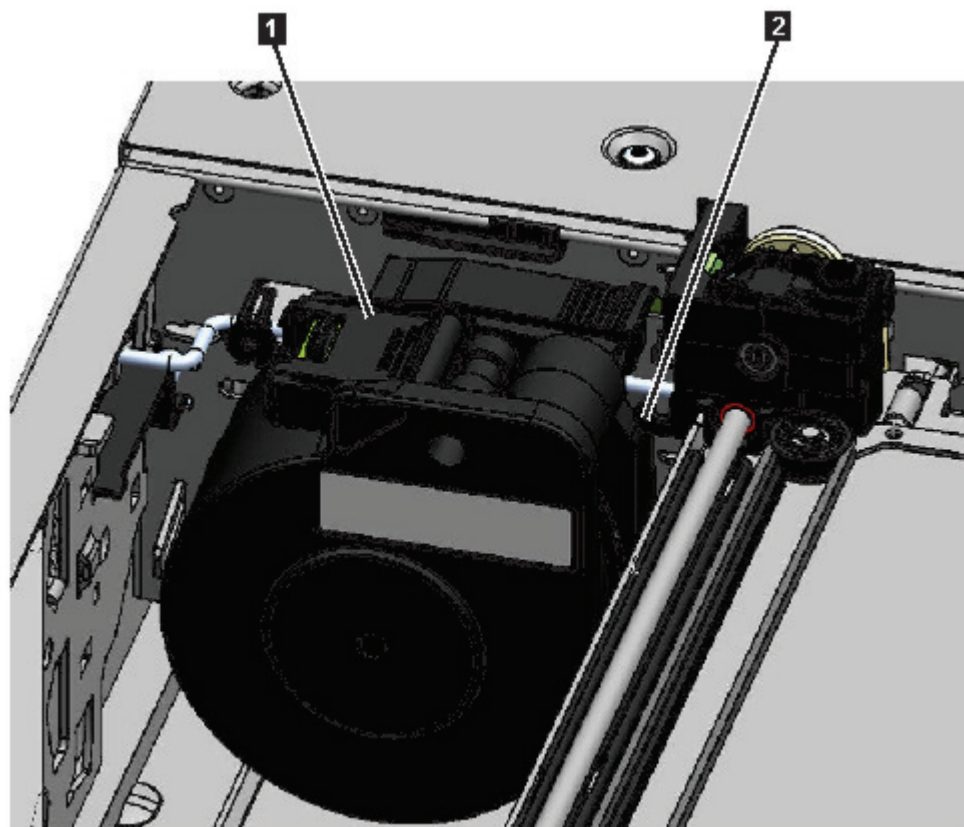

Figure 74. Spooling cable in park position
Note: Note where the end of the spooling cable pivots in the accessor. It is important to know when you attach the new spooling cable to the accessor. See 2 in Figure 74 on page 134.
9. Place the spooling connector (1 in Figure 74 on page 134) to the park position.